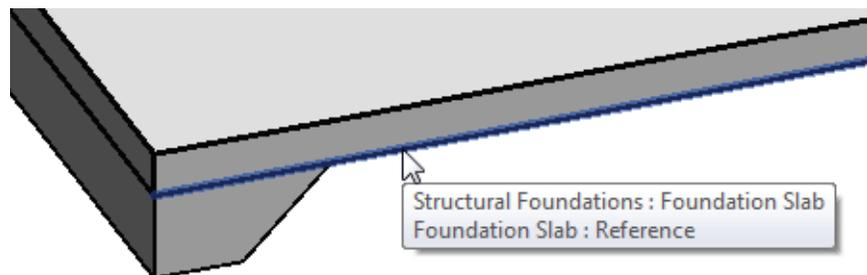

Figure 7–32
4. Select the edges of the slab where you want to apply the slab edge as shown in Figure 7–32. You can use <Tab> to highlight and select all sides of the slab.